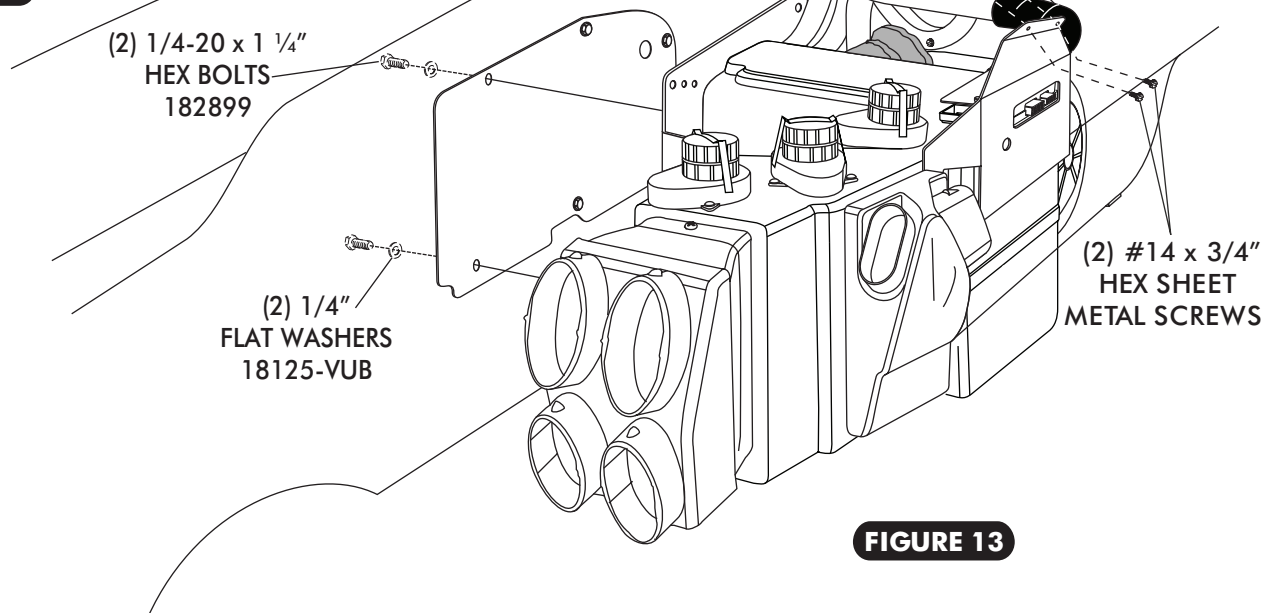

FIGURE 13
- LIFT EVAPORATOR UNIT UP UNDER THE DASHBOARD. SECURE LOOSELY TO THE FIREWALL FROM THE ENGINE COMPARTMENT SIDE USING (2) 1/4-20 x 1 1/4" HEX BOLTS AND FLAT WASHERS. SEE FIGURE 13.
- SECURE THE FRONT EVAPORATOR MOUNTING BRACKET TO COWL. USING BRACKET AS TEMPLATE DRILL (2) 3/16" HOLES IN COWL. SECURE WITH (2) #14 x 3/4" HEX SHEET METAL SCREWS SEE FIGURE 13 BELOW.